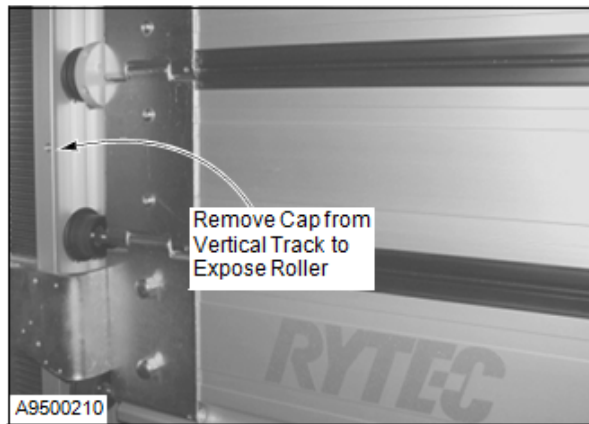

Figure 68
5. Remove the vertical door track cap that is covering the roller to be removed. The cap is held in place with TORX® head screws. (See Figure 68.)